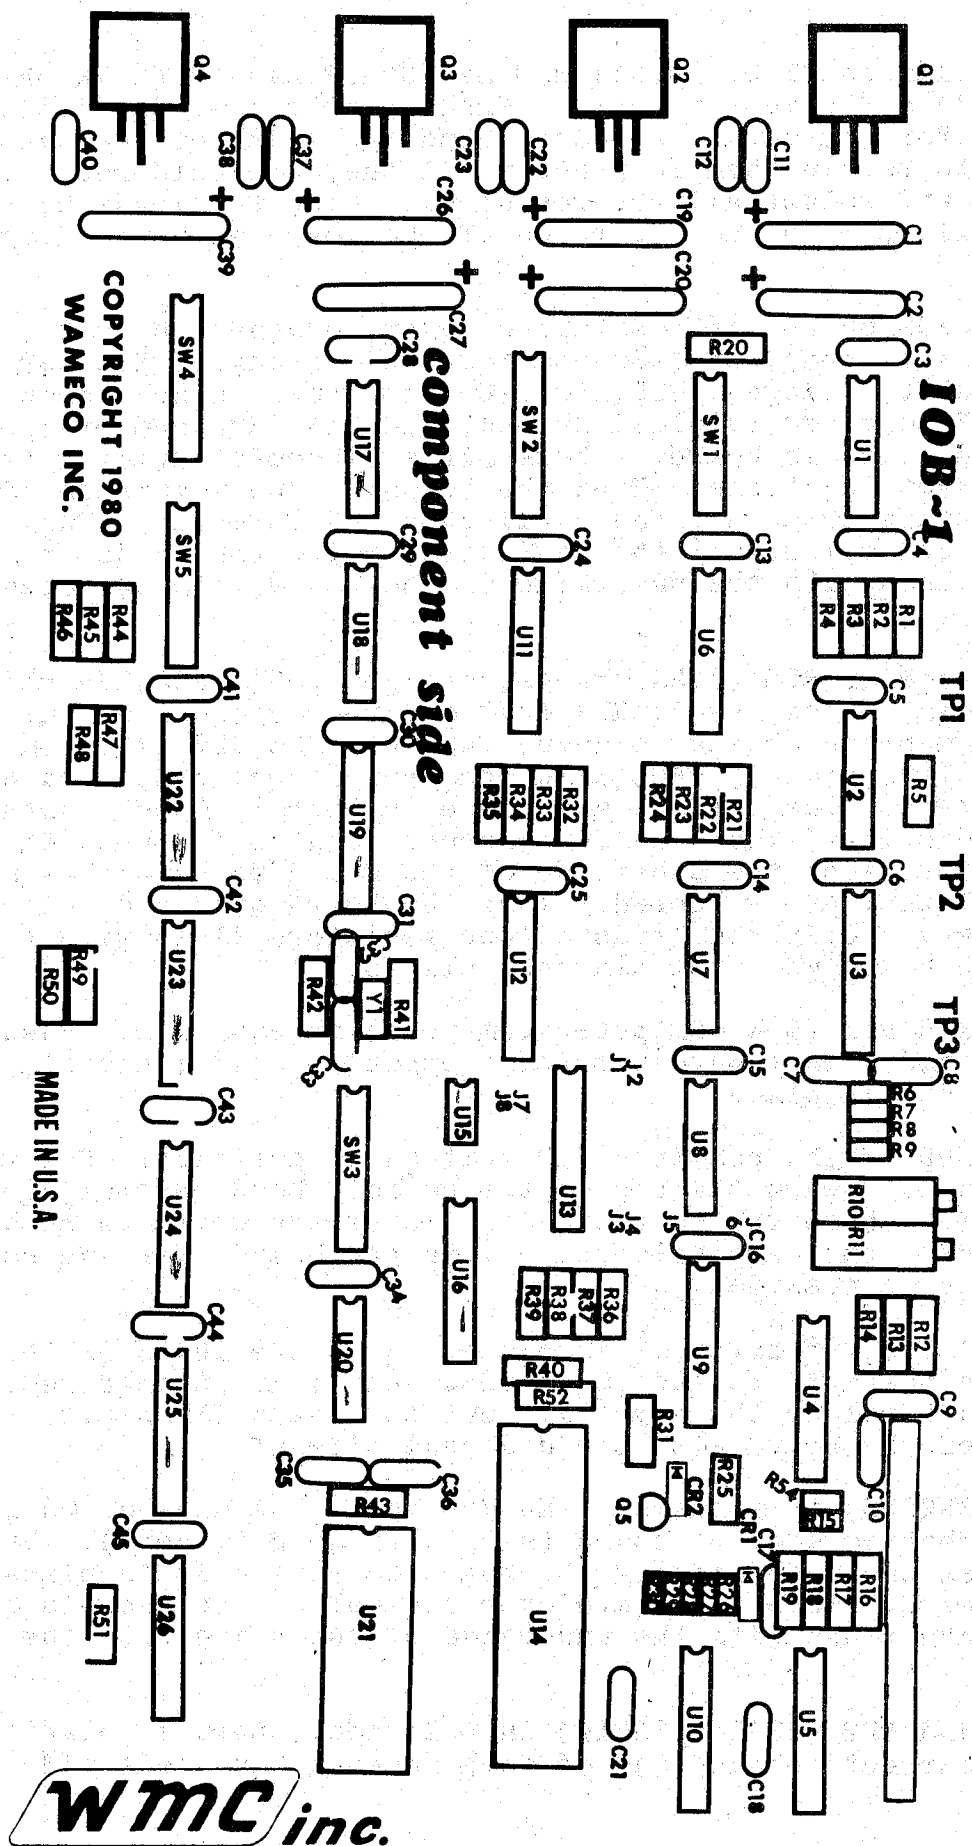

Figure 1. Parts Placement Drawing
- I-5 Bend the leads on R1-5, R9, R14, R20-24, R32-39, R44-48 (2.7K ohm red, violet, red) and place in board. Check part placement drawing (figure 1) for correct locations. Bend the leads on the underside of the board to retain them in place until they are soldered. Turn the board over and solder all the resistors. Clip the leads of the resistors flush with the underside of the board with the diagonal pliers.
- I-6 Bend the leads on R6 (18K ohm brown, gray, orange), R7, R13 (4.7K ohm yellow, violet, red), R8 (22K ohm red, red, orange), R12, R29 (47K ohm yellow, violet, orange), R15, R19 (100 ohm brown, black, brown), R16, R43 (270 ohm red, violet, brown), and R18 (33K ohm orange, orange orange) and place in board. Check parts placement drawing (figure 1) for correct locations. Bend the leads on the underside of the board to retain them in place until they are soldered. Turn the board over and solder all the resistors. Clip the leads of the resistors flush with the underside of the board with the diagonal pliers.
- I-7 Bend the leads on R25 (3.3K orange, orange, red), R26, R30, R51 (1K ohm brown, black, red), R27 (27K ohm red, violet, orange), R28 (10K ohm brown, black, orange), R31, R49, R50, R52 (470 ohm yellow, violet, brown), R40 (1.2K ohm brown, red, red), and R41, R42 (560 ohm green, blue, brown) and place in board. Check parts placement drawing (figure 1) for correct locations. Bend the leads on the resistors on the underside of the board to retain them in place until they are soldered. Turn the board over and solder all the resistors. Clip the leads of the resistors flush with the underside of the board with the diagonal pliers.
- I-14 Bend the leads of C1, C2, C19, C20, C26, C27, C39 (10uf minimum, Tantalum/electrolytic capacitors) and place in position. Ensure polarity of the capacitors is correct (see figure 1). Bend the leads on the underside of the board to retain them in place until they are soldered. Turn the board over and rest the ends of the board on two books. Solder the leads and clip them flush with the underside of the board with the diagonal pliers.
each regulator is placed in the proper place (see figure 1). Note where the leads of each regulator pass over the connection holes on the IOB-1. Bend the leads of each regulator so that the leads can be inserted into the proper holes. Mount the regulators on the board with a heatsink between the regulator and the board. Fasten the heatsink and regulator to the board fingertight using a 6-32 x 3/8" machine nut and screw. Solder the leads of the regulators in place.
- II-4 Install all IC's on the IOB-1. Check the parts placement drawing (see figure 1) for proper location and correct polarity of IC's.